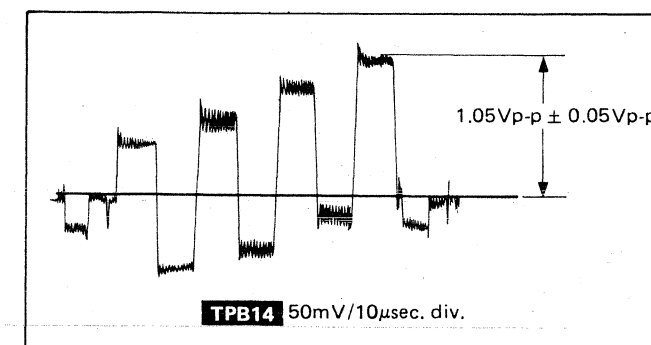

Fig. 12
- Adjust R5106 (Sub. Colour) so that the waveform **TPB14** becomes 1.05 ± 0.05V as shown in Fig. 12.